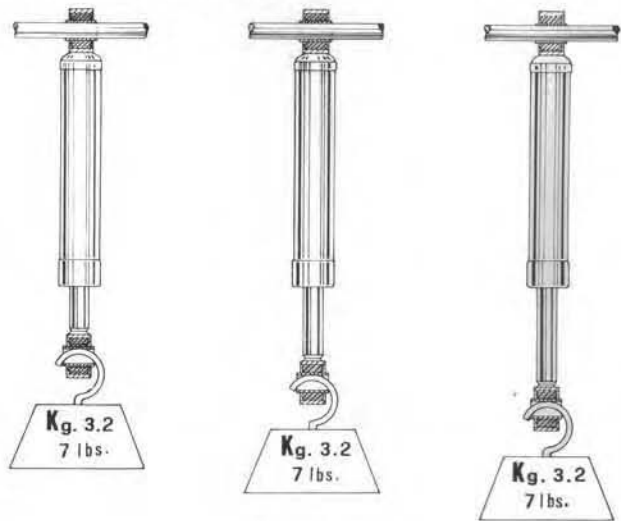

Fig. 149
**INSPECTION OF THE STEERING DAMPER UNIT (See fig. 149)**